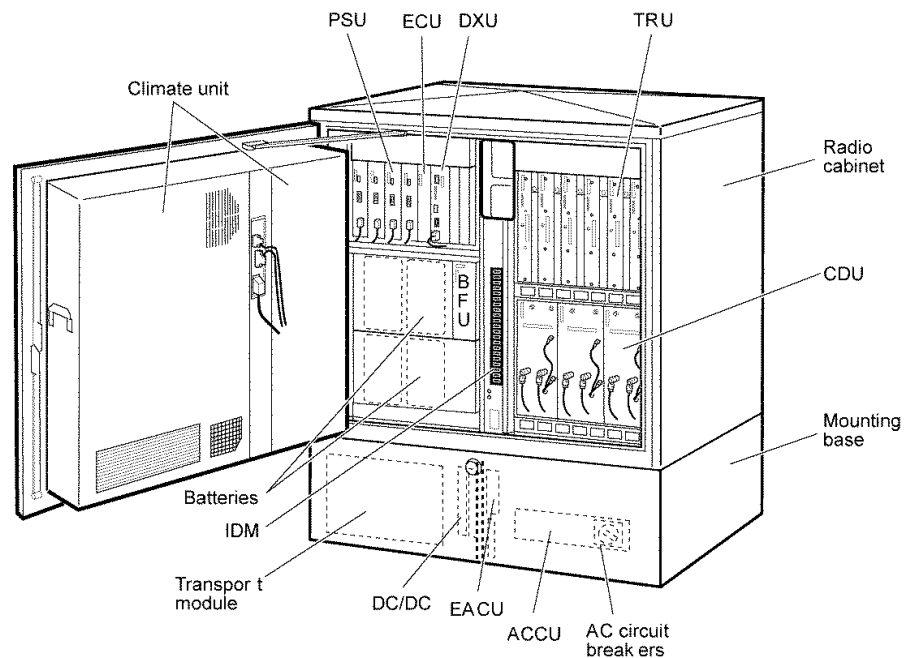

Figure 2-2 RBS 2102
- The RBS cabinet houses up to 6 TRUs plus common equipment needed for serving the cell configuration, see fig 2-2.